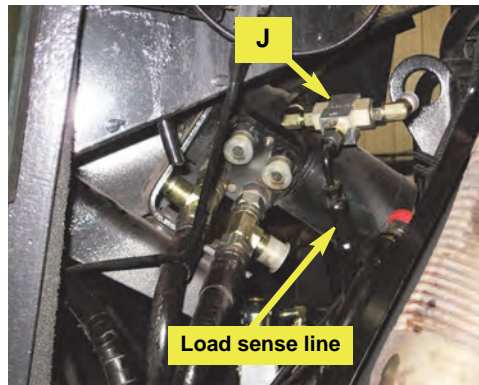

Figure 4d: Installed load sense shuttle
c. Remove the load sense line from the orbital and install the prepared load sense shuttle (**J**) as shown. Reattach the orbital load sense hose to the end of the load sense shuttle as shown (Figure 4d).